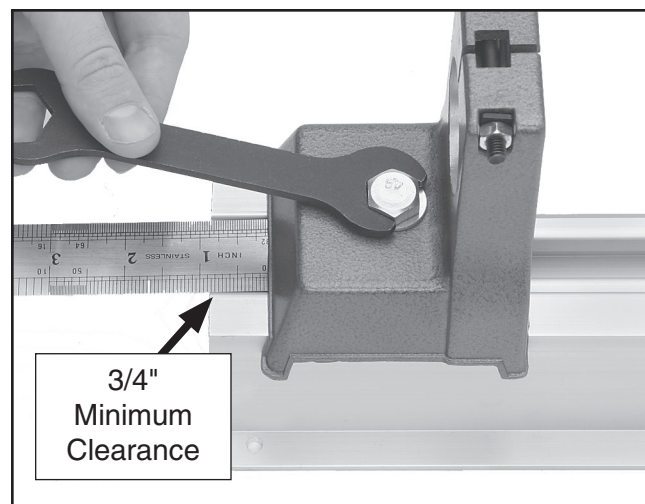

Figure 5. Mounting the headstock.
2. Position the headstock so that the rear is at least $\frac{3}{4}$ " from the end of the bed, then use the open end wrench to tighten the hex bolt as shown in **Figure 5**.